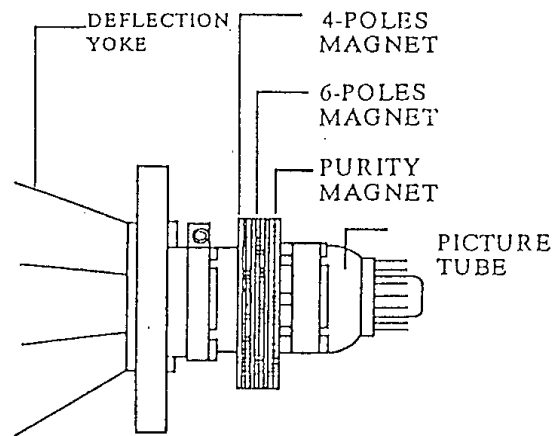

FIG. 1
- adjust the purity magnet so that the picture is in magenta color. By turning two overlapping pawls in opposite directions, move them until they are at the same angle, 9 o'clock and 3 o'clock respectively. / as shown in fig.1 /